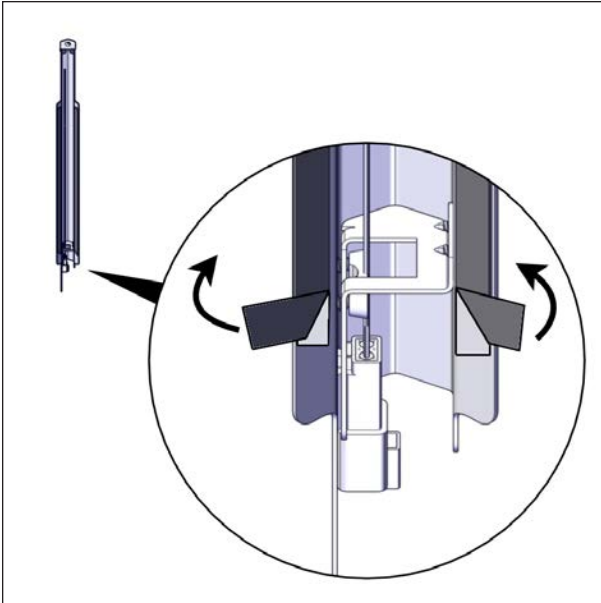

FIGURE 57: RED PLASTIC FILM SHORT PORTION REMOVAL
11. Peel off a short length of the red plastic film on the double-sided tape, fold the film toward the outside. (Do this step for both sides) see Figure 57.